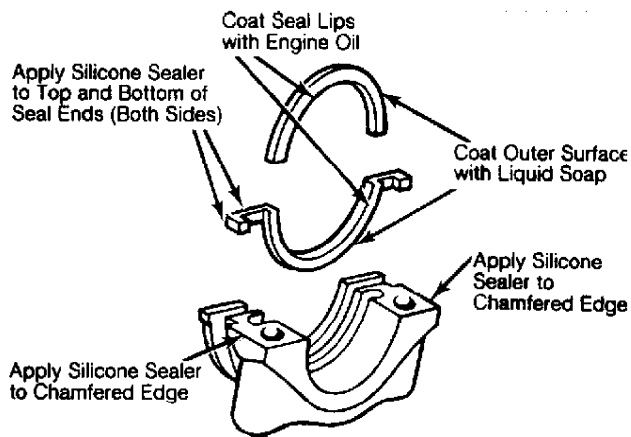

Fig. 7: Installing Rear Main Bearing Oil Seal
1) Clean crankshaft seal surface. Coat seal-to-block contact areas with liquid soap. Lightly coat all seal lips with engine oil. See Fig. 7. Install upper seal into block with lip facing toward front of engine.
3) Install lower seal into bearing cap with lip facing toward front of engine. Ensure seal is firmly seated in bearing cap. Apply Silicone sealer to chamfered edges of bearing cap. See Fig. 7.